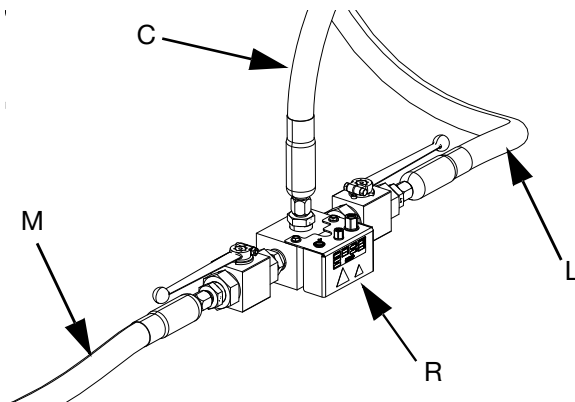

FIG. 24
- c. Connect Tandem Hose 1 (L) and Tandem Hose 2 (M) from the supply system to the Tandem Block (R). See FIG. 24.
- d. Connect Supply Hose 1 (C) to the Tandem Block (R). See FIG. 24.